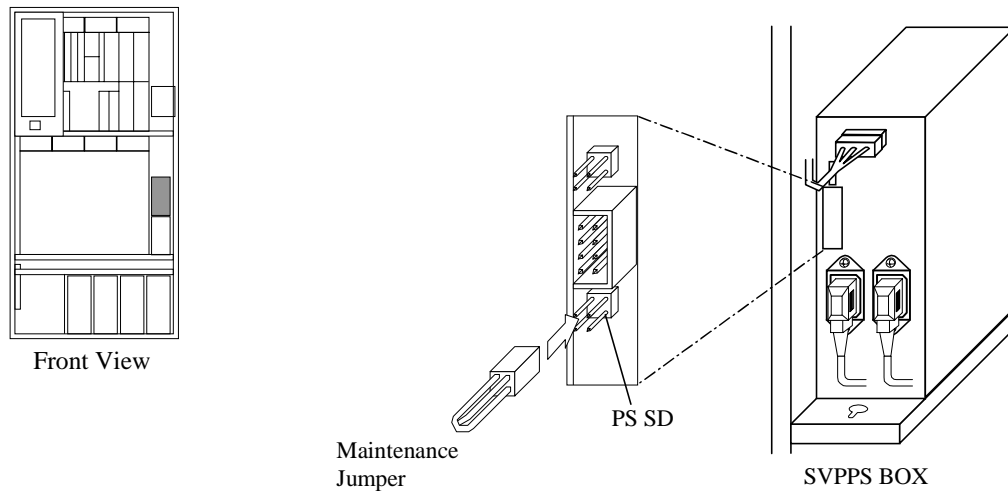

Fig. 3.15-3 Jumper settings of SVPPS BOX
- Remove the maintenance jumper of the PS SD on the SVPPS BOX. (See Fig. 3.15-3.)